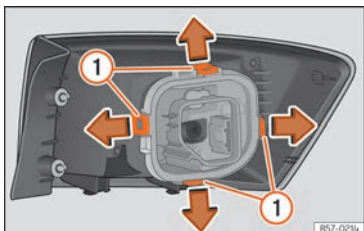

Fig. 62 Retaining tabs on reverse side of tail light.
- Unscrew the light securing bolt by hand or using a screwdriver »» **Fig. 62** ②.
- Disassemble the bulb holder unlocking the securing tabs »» **Fig. 62** ①.